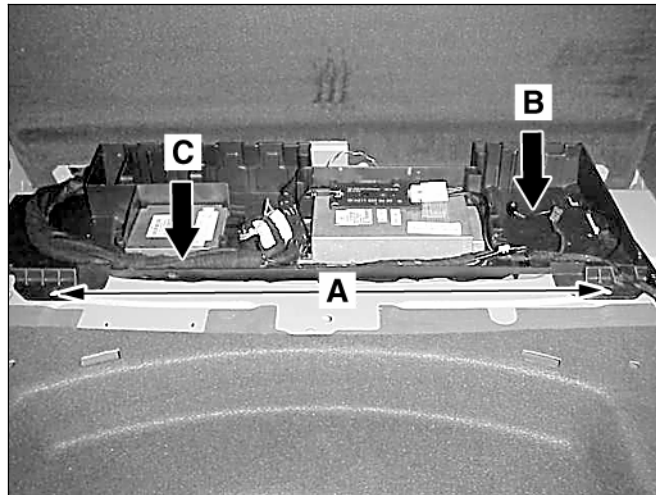

Figure 2
- Refer to (A, Figure 2) for fastening point locations of carrier plate cover
3. In the right side compartment of the carrier plate (refer to [B, Figure 2] for orientation), locate the:
5. Mount the linear compensator to the right side compartment of the carrier plate (refer to B, Figure 2 for orientation):
- Refer to (C, Figure 2 for orientation)
6. Move the vehicle harness back to its original position (C, Figure 2).